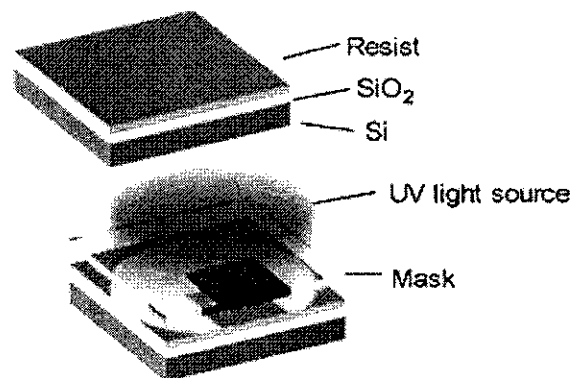

Figure 2(e): Photolithography process for patterning SiO_2 on Si wafer.
- (e) Figure 2(e) shows the photolithography process for patterning silicon dioxide (SiO_2) on Si wafer. Sketch the final SiO_2 structure on Si wafer, following patterning process using positive (+PR) and negative (-PR) photoresists, respectively. [4 marks]